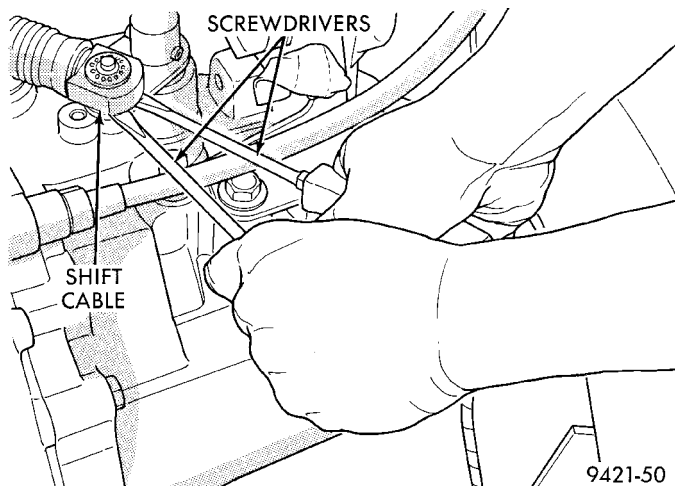

Fig. 23 Shift Cables
- (6) Disconnect both gear shift cables ends from transaxle shift levers (Fig. 23).